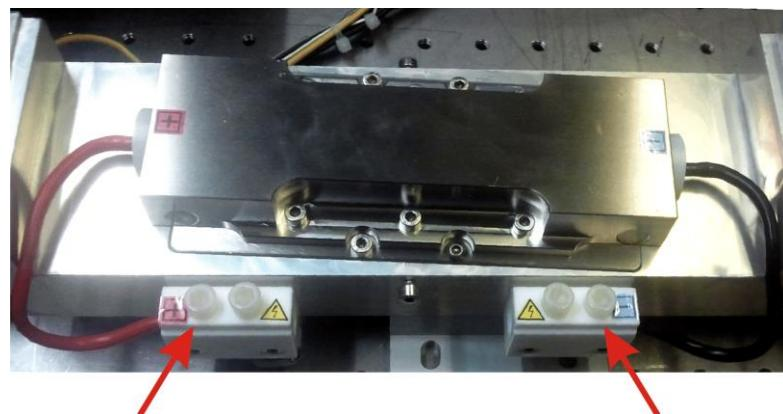

Figure 12 Disconnecting the electrodes
7. Remove the outer plastic bolts covering electrodes fixing screws (Figure 12). Release screws fixing the electrodes of the flash lamp. Disconnect electrodes.